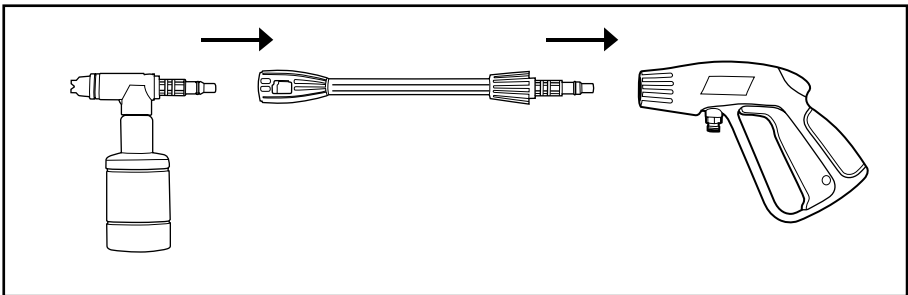

Figure 12 - Attach application to gun
4. Attach detergent applicator to gun. (See Figure 12)